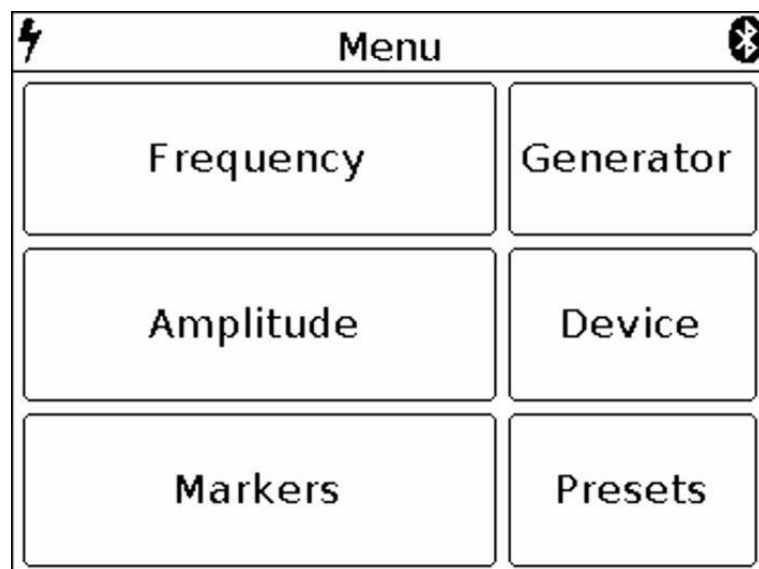
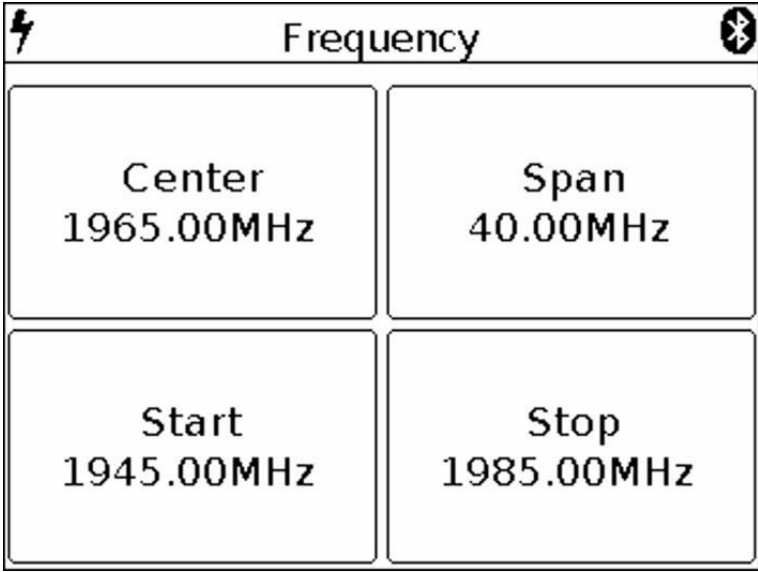
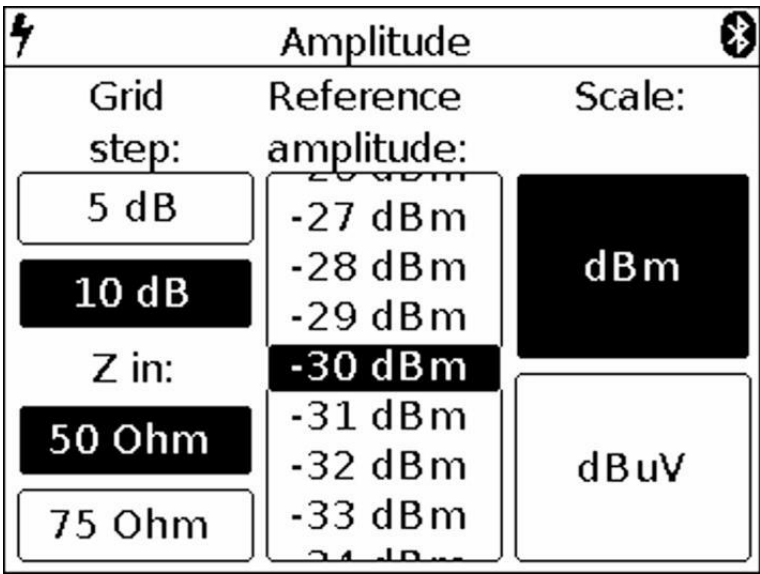
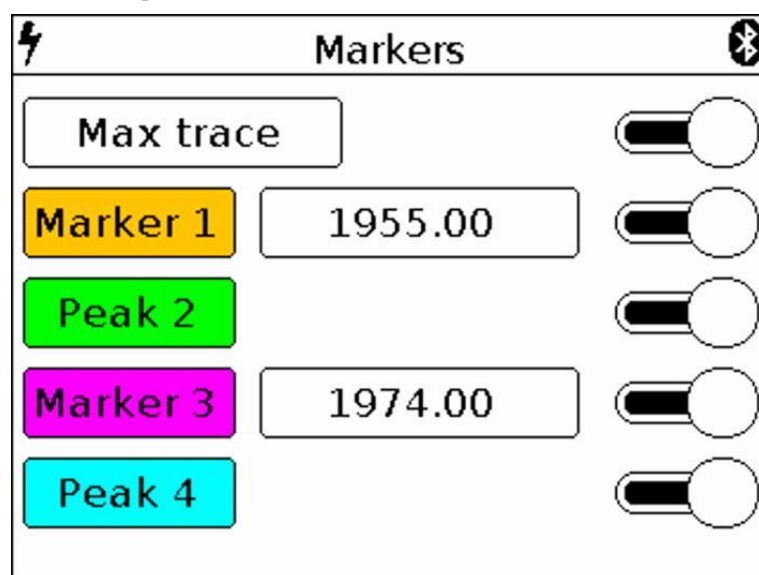

Figure 6 – Main menu
Figure 7 – Menu of setting the frequency of the overview
Figure 9 – Amplitude parameters setup menu
Figure 10 – The menu of markers and peak values of the signal. Max trace mode is on
7.2.1. Turn on the instrument in accordance with section 6 of this «Manual». To enter the main menu, press the «MENU» on the button block. The menu appears on the screen, as in figure 6.
7.3.1. To set the frequency range, enter the main menu of the instrument (Figure 6) by pressing «MENU». Select subsection «Frequency». The menu appears on the screen, as in figure 7.
7.4.1. To set the amplitude parameters of the analyzed signals, enter the main menu of the device (figure 6) by pressing the «MENU». Select the subsection Amplitude. The menu will appear on the screen, as in Figure 9.
7.5.1. To enter the menu of setting markers and peaks, enter the main menu of the device (Figure 6) by pressing the «MENU». Select subsection Markers. The menu appears on the instrument screen, as in Figure 10.
7.5.5. If it is necessary to search and track the maximum (peak) amplitude values over the entire range of the signal under analyze, one or several Marker indicators must be switched to the Peak value as shown in figure 10.
7.6.1. To set the values of the frequency and output power of the built-in generator, go to the main menu of the device (Figure 6) by pressing the «MENU». Select subsection Generator, menu will appear on the screen as in figure 13.